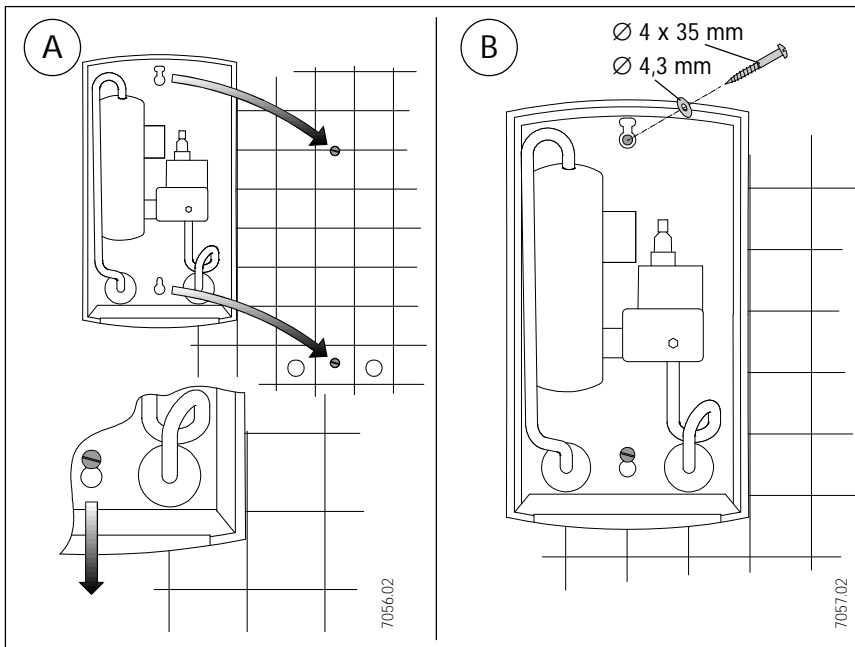
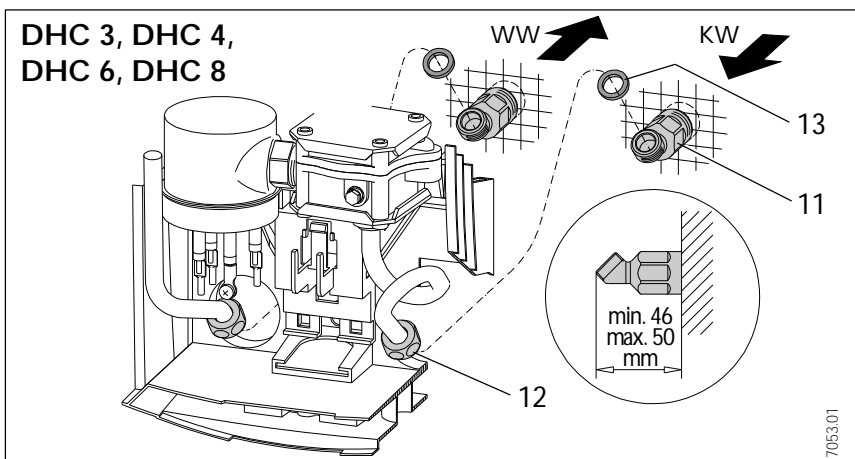

Fig. 9
Fig. 12
2. Install water connection components in accordance with Figs. 12 and 13 respectively.
Note: When replacing an old DHC unit (old screw holes can be used), do not screw in the upper screw until after the new unit has been fitted (Fig. 9 B).
5. For **concealed connections**, screw the water connection into the wall diaphragm in accordance with Fig. 12. Guide the unit over the screws and push downwards (Fig. 9 A).
Concealed connection (Fig. 12)